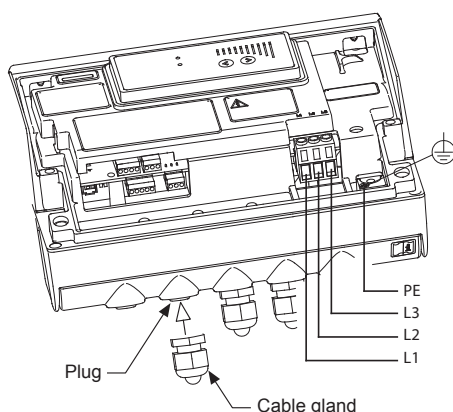

Fig. 36 Connecting cable gland to plug
- a. Remove the plug from each MLE casing with a flat head screw driver (see fig. 36).
- b. Thread a new cable gland into each MLE casing with a crescent wrench (see fig. 36).
- i. Tighten the new cable gland cap to secure the cable (see fig. 36).